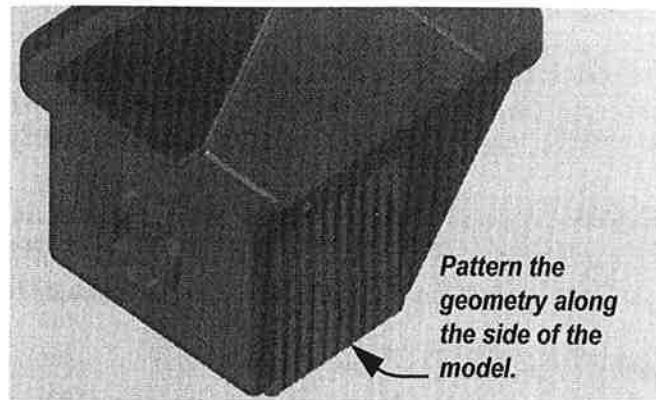

Figure 13–12
In this task, you will create the rectangular pattern of features shown in Figure 13–12.
3. In the toolbar, click  (Rectangular Pattern) in the CREATE panel. The RECTANGULAR PATTERN palette opens as shown in Figure 13–13.